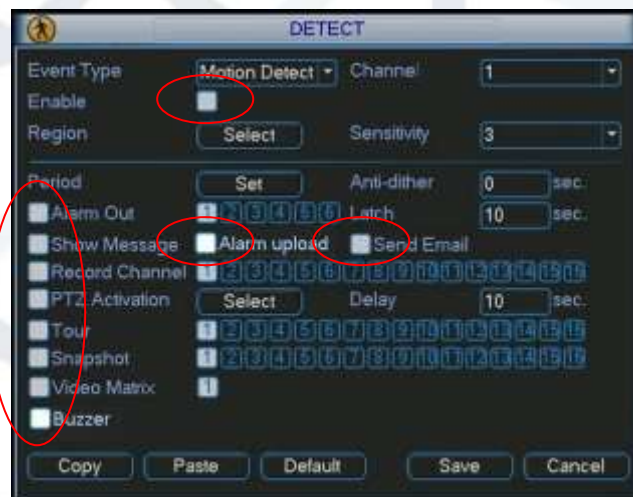
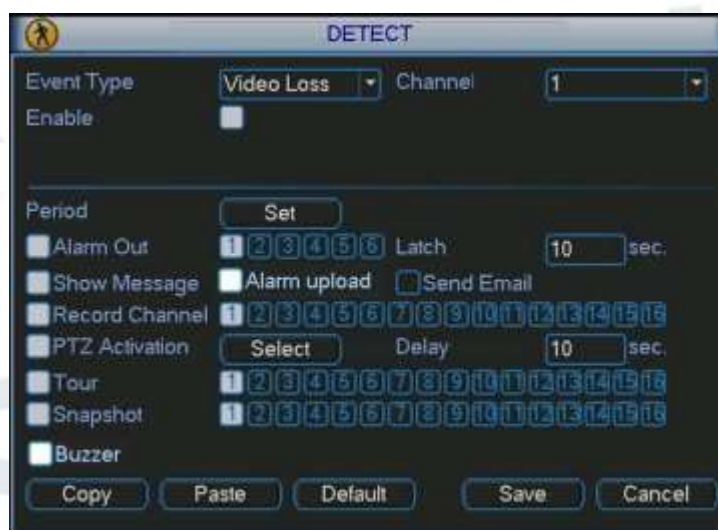

Figure 4-26
Figure 4-32
In the main menu, from Setting to Detect, you will see the motion detect interface. See Figure 4-26. There are three detection types: motion detection, video loss, camera masking.
Detection menu is shown as below. See Figure 4-26.
- **Region:** Click select button, the interface is shown as in Figure 4-26. Here you can set motion detection zone. There are 396(PAL)/330(NTSC) small zones. The green zone is current cursor position. Grey zone is the motion detection zone. Black zone is the disarmed zone. You can click Fn button to switch between the arm mode and disarm mode. In arm mode, you can click the direction buttons to move the green rectangle to set the motion detection zone. After you
In Figure 4-26, select video loss from the type list. You can see the interface is shown as in Figure 4-32 .This function allows you to be informed when video loss phenomenon occurred.